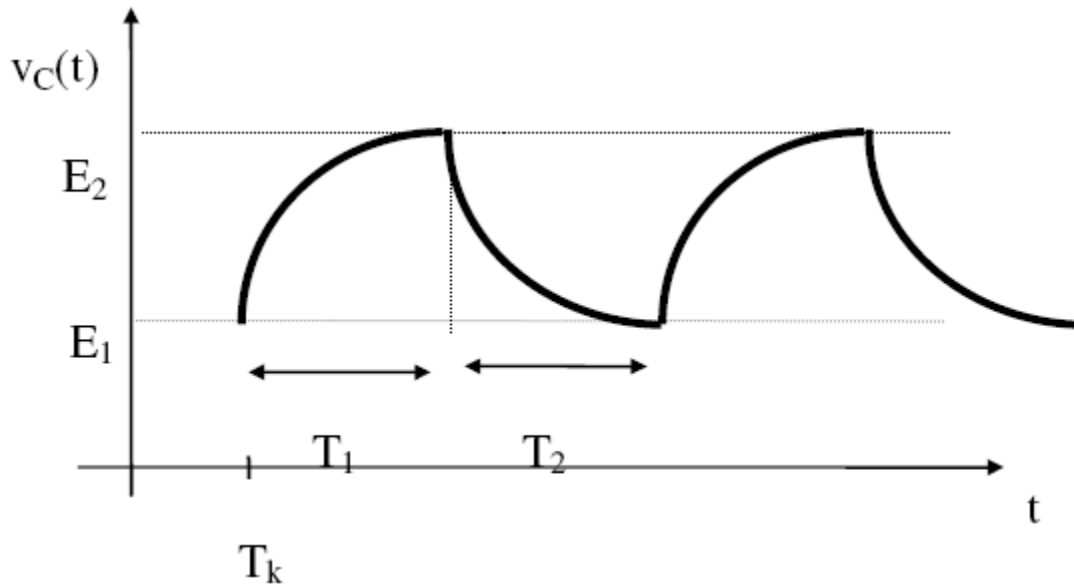

Figure 7
b) If RC time constant is enough large to compare with the period, the variance of $v_C(t)$ will be as Figure 7. Capacity will charge with first pulse, during T_2 time, second pulse will come before